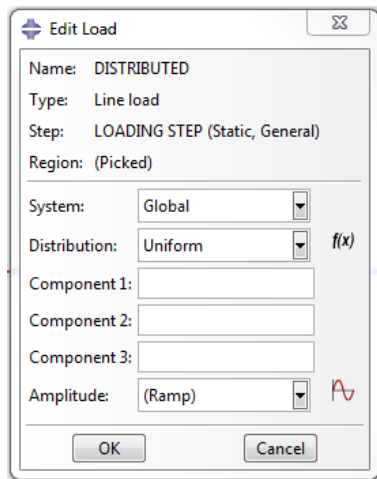
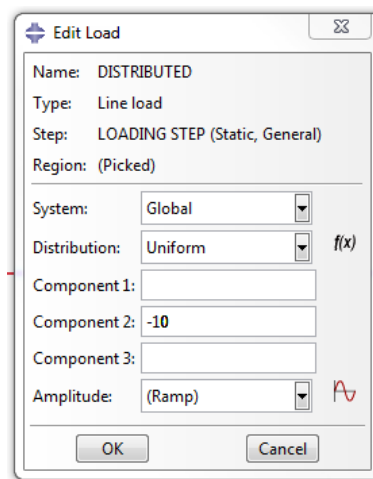

**Figure 28a.** Create Load
**Figure 28b.** Create Load (DISTRIBUTED)
- Double click **Loads** in the model tree and the **Create Load** dialog box will appear (Figure 28a). Create a **Name** for load called **DISTRIBUTED**, and under the **Step** drop down menu make sure to choose **LOADING STEP**. Under the **Category** option choose **Mechanical**, and choose **Line load** under the **Types for Selected Step** option. The **Create Load** dialog box should look identical to that in Figure 28b.